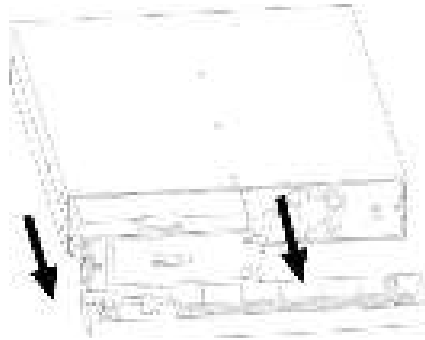

Figure 26: Removing the battery cover
3. Remove the battery cover (see Figure 26).